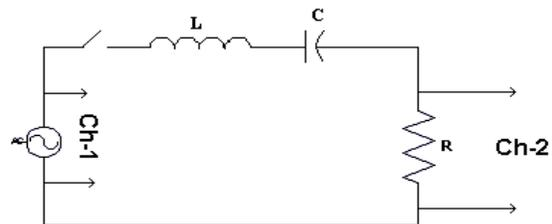

Fig.1
1. Construct the circuit as shown in the fig.1. Connect channel 1 of the oscilloscope across function generator and channel 2 of the oscilloscope across R.
4. Now determine the current (I) at resonance frequency and Determine the frequencies ( $f_1$  and  $f_2$ ) where current is ( $I/\sqrt{2}$ ).